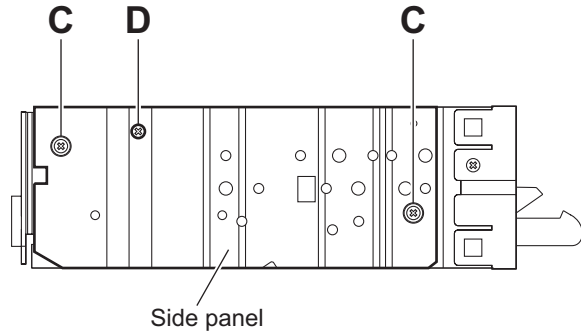

Fig.5
3.1.4 Removing the side panel (See Fig.5)